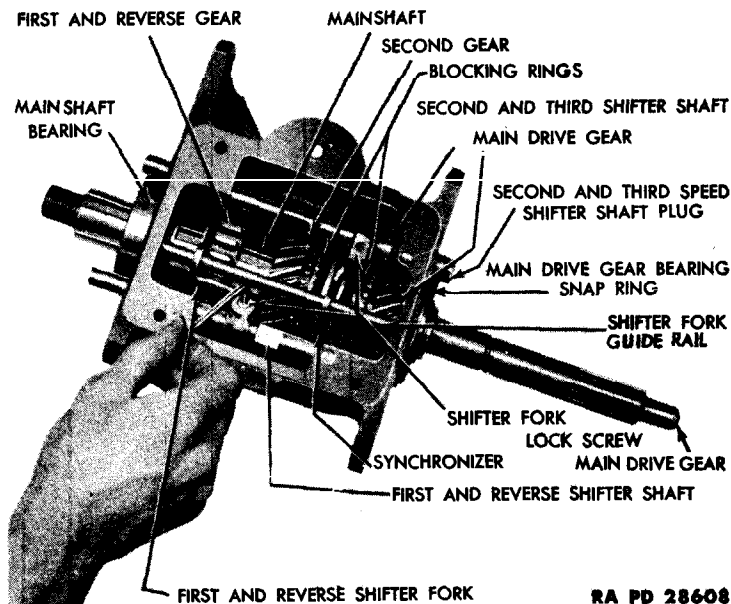
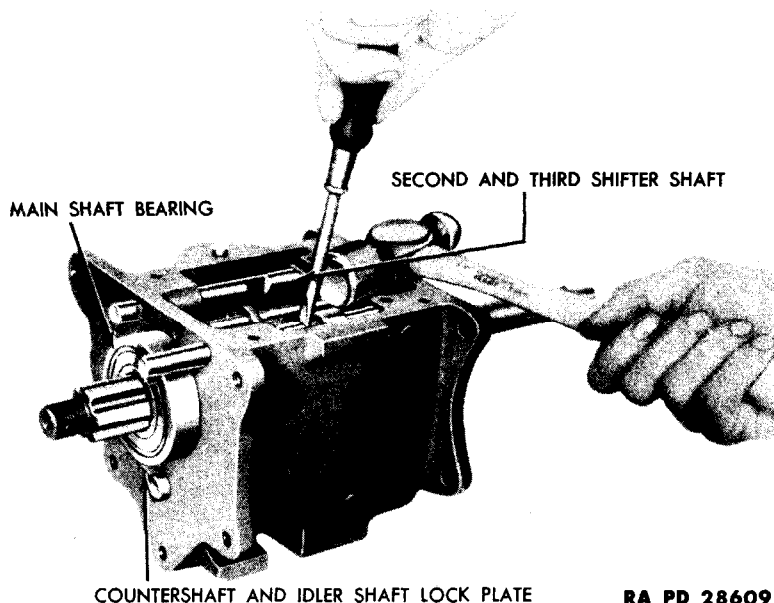

Figure 8 — Removing Shifter Fork Lock Screws
Figure 9 — Removing Shifter Shafts
c. Remove Shifter Fork Guide Rail (fig. 8). Push the shifter fork guide rail out of the transmission.
d. Remove the Low and Reverse, and the Second and High Shifter Forks. Remove the shifter fork lock screw from each fork (fig. 8). Tap the shifter shafts part way out of the transmission (fig. 9), being careful not to lose the interlocking ball in each shaft. Hold the shifter fork and pull the shafts from the transmission.
f. Install First and Reverse Shifter Fork (fig. 8). Hold the first and reverse shifter fork in position on the first and reverse gear, and slide the low and reverse shifter shaft (short shaft) into the case about half way. Drop an interlock spring and ball in the pocket. Press down on the ball and push the shifter shaft all the way in the case. Line up the groove of the shaft with the shifter fork and install the lock screw.
g. Install Second and Third Shifter Fork (fig. 8). Repeat the same procedure as used in installing the low and reverse shifter fork, and then push the guide rail into the case and through both shifter forks.